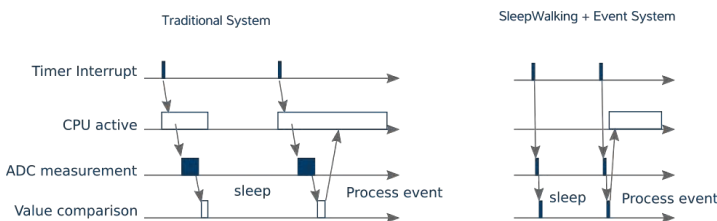

Figure 3: Timing Comparison between Traditional System and Combination of SleepWalking and Event System
- Another benefit is that the latency between the timer elapsing and the actual processing of the event is shorter and deterministic as shown in Figure 3.